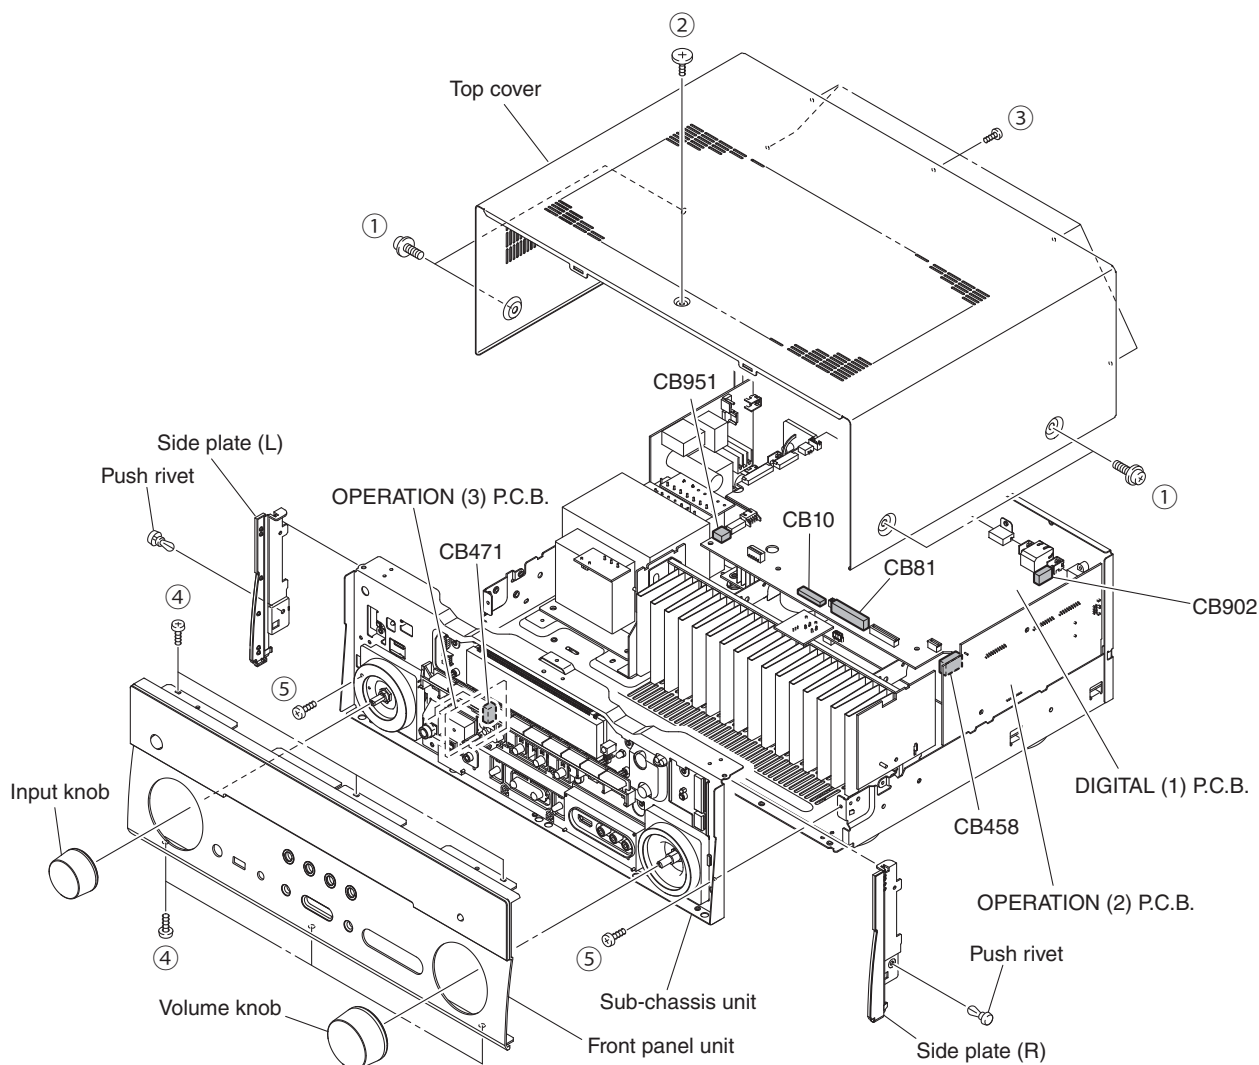

Fig. 1
- a. Remove 4 screws (①), screw (②) and 5 screws (③). (Fig. 1)
- b. Slide the top cover rearward to remove it. (Fig. 1)
- a. Remove knob. (Fig. 1)
- b. Remove 6 screws (④) and then remove the front panel unit. (Fig. 1)
- c. Remove 2 push rivets and then remove the side plate (L) and side plate (R). (Fig. 1)
- d. Remove CB10, CB458, CB471, CB902 and CB951. (Fig. 1)
- e. Remove 2 screws (⑤) and then remove the sub-chassis unit. (Fig. 1)